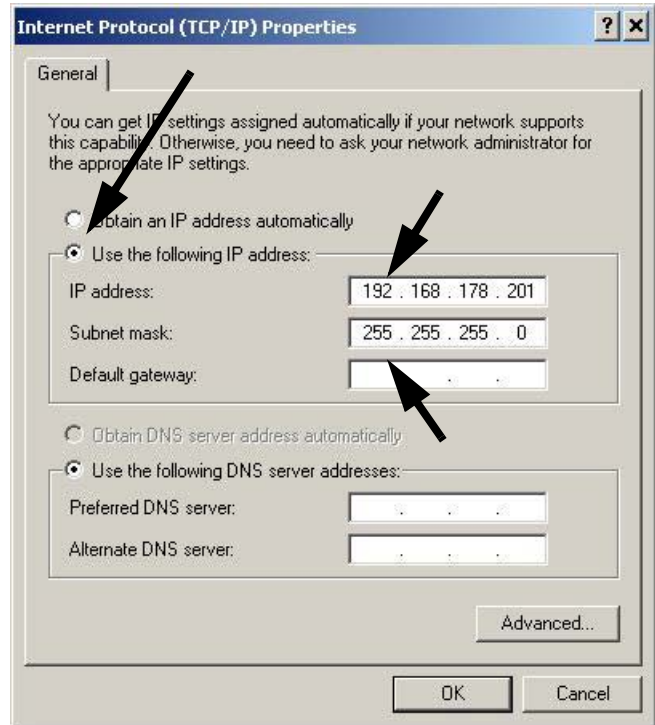

FIG. 4: Internet Protocol (TCP/IP) Window
- c. In the Local Area Connection Properties window, scroll to Internet Protocol (TCP/IP) and double click, to open the Internet Protocol (TCP/IP) Properties window. See FIG. 4.
- d. See FIG. 4. Set to “Use the following IP address:”